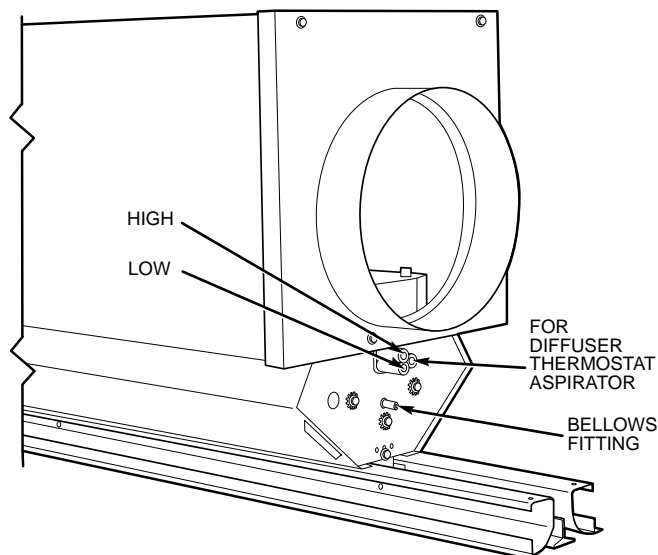

Fig. 13 — Typical 37HS Air Terminal Before Installation of Controls
2. Remove cap from bellows fitting and install $1\frac{1}{16}$ -in. long piece of $\frac{1}{4}$ -in. OD pneumatic adapter tubing onto the bellows fitting (Push on full length of fitting). See Fig. 13.